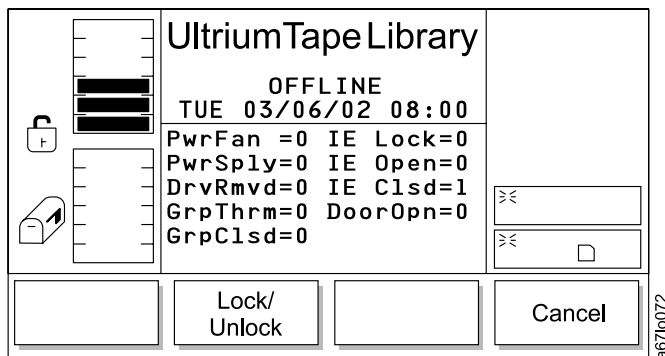

Figure 166. Sensor Dialog
- If **Sensors** is selected, the Sensor Dialog displays (see Figure 166 on page 136).
**Sensor Dialog:** When **Sensors** is selected, the Sensor Dialog displays (see Figure 166). This option displays the real-time state of the sensors and lets you lock or unlock the I/O station.